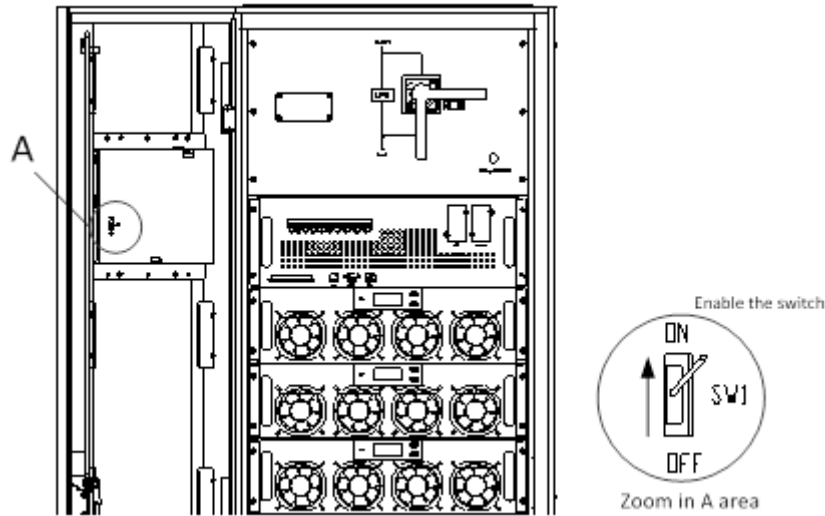

Fig.4-3 Enable the switch
- (b) Press and hold the BYP key on the operator control panel for longer than two seconds and the system transfers to bypass mode. This needs to enable the switch behind the front door. See Fig.4-3.